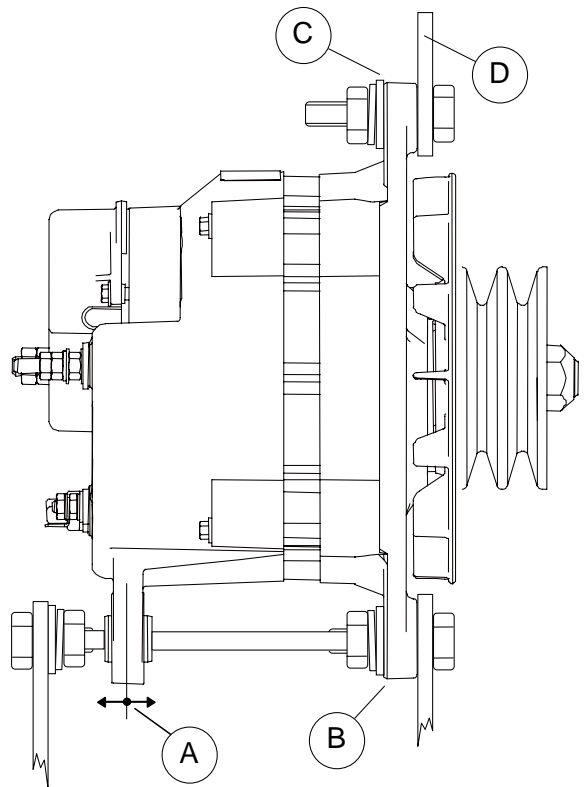
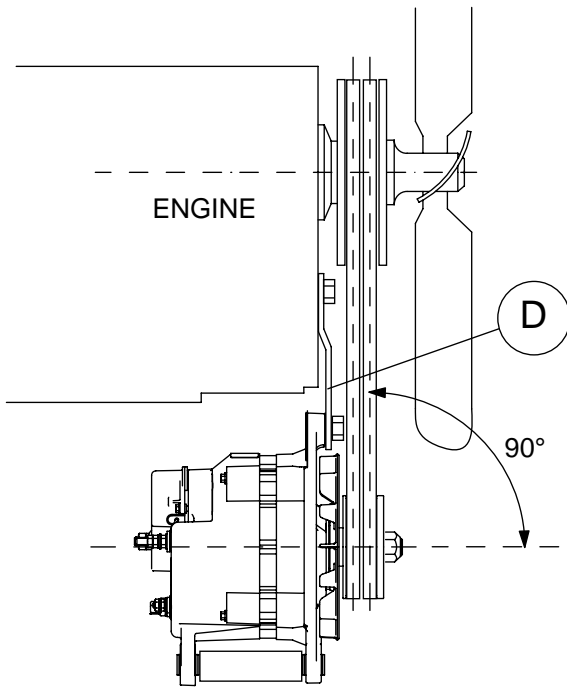

Figure 5
Figure 6
- 2 Loosely attach the mounting bracket to the engine with the mounting engine bolts. Position the alternator mounting foot between the two ears (figure 5, references A and B) on the mounting bracket with the alternator mounting bolts. Note that the ear at the rear side of the alternator housing should be fixed in such way that it can freely move in the direction of the arrow (see figure 5, reference A). This is to avoid mechanical stress due to possible high temperatures of the alternator.
- 3 Align the alternator pulley with the engine drive pulley as shown in figure 6 and tighten the bracket mounting bolts, securing the mounting bracket to the engine.
- 4 Loosely attach the alternator adjustment strap (figure 6, reference D) to the alternator adjustment ear (figure 5, reference C) with the bolt, lockwasher and flat washer.
- 5 Tighten the V-belt by applying pressure to the alternator front housing only and tighten the bolt to the adjustment ear (figure 5, reference C). Set belt tension per belt manufacturer's recommended specifications. If manufacturer's specifications are not readily available, set V-belt tension tight enough so that the V-belt on alternator fan pulley will not slip when attempting to rotate alternator by hand.